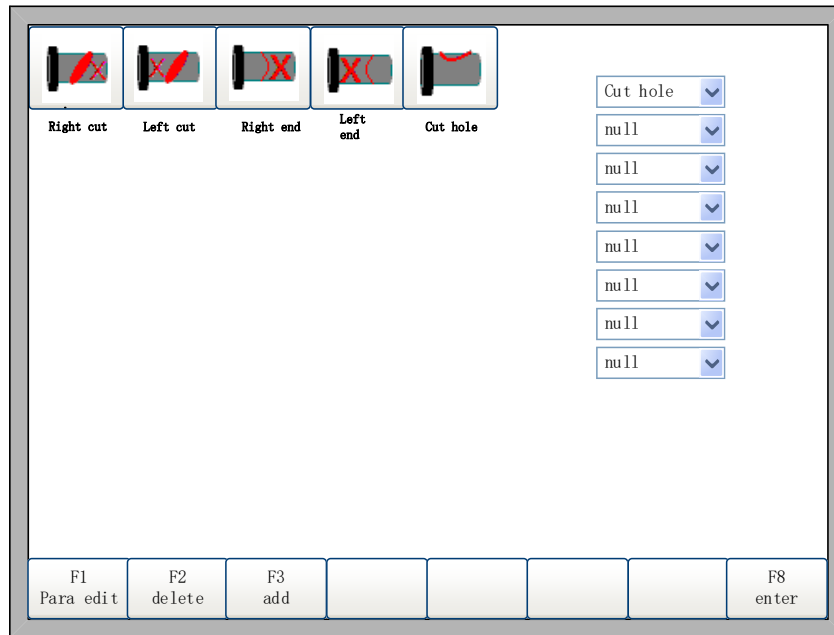

Fig16.3 Graphics library interface
Under the main interface, press **【F1】** to enter the tube graphics library interface, as shown in Figure 16.3.
In Figure 16.3, undergraphics library interface, press [↑], [↓] to select the end of the parameter to be set, and then press 【F1】 to display the corresponding parameter editing interface.
- Pipe Diameter 1: The outer diameter of the cut pipe, 1 on the schematic, which can only be set in the type of terminal selected in the first drop-down box in Figure 16.3. Unit: mm
- Pipe wall thickness 2: The wall thickness of the cut pipe, 2 on the diagram. This parameter can only be set in the type of terminal selected in the first drop-down box in Figure 16.3. Unit: mm
- Branch pipe1: The outer diameter of the cut pipe, 1 on the diagram. This parameter can only be set in the terminal type selected in the first drop-down box in Figure 16.3. Unit: mm
- Branch pipe2: The wall thickness of the cut pipe, 2 on the diagram, which can only be set in the type of terminal selected in the first drop-down box in Figure 16.3. Unit: mm
- Mother pipe D3: The outer diameter of the cut pipe, 3 on the schematic. This parameter can only be set in the type of terminal selected in the first drop-down box in Figure 16.3. Unit: mm
- Mother pipeT 6: The wall thickness of the cut pipe, 6 on the diagram. This parameter can only be set in the type of terminal selected in the first drop-down box in Figure 16.3. Unit: mm